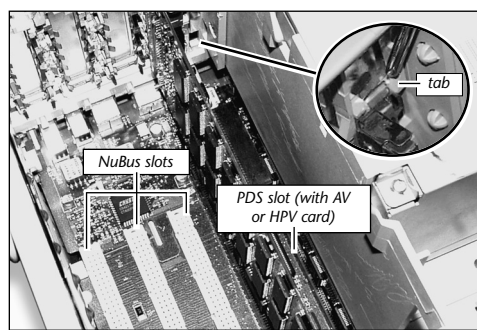

Figure 29: Remove any cards from PDS and NuBus slots
6. Locate the PDS slot (*Figure 29*) directly under the metal shielding of the internal power supply. If there is a PDS card installed (such as the Apple AV or HPV card or Sonnet Crescendo card), remove it. Gently unlatch the inner case tab away from the PDS card with your finger or the head of a small flatblade screwdriver (*Figure 29, inset*), then grasp the edges of the card firmly and pull it out of the PDS slot.
7. Locate the NuBus slots (*Figure 29*). If any NuBus cards are installed, temporarily remove them so you have better clearance for installing the video adapter board. If you have three NuBus cards in your computer, you will only be able to reinstall two of them. The middle NuBus slot is required for the adapter board.